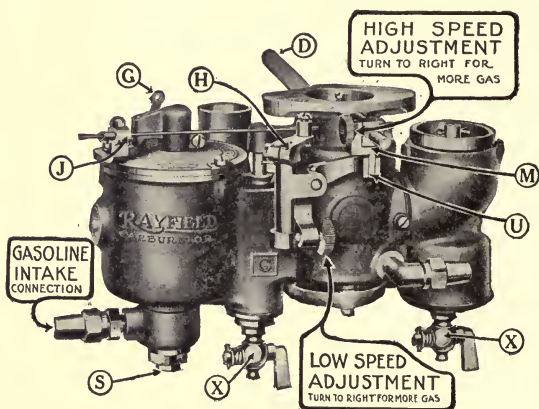

FIG. 111.—Rayfield Model G carburetor.
65. Rayfield Model G.—This carburetor is illustrated in Figs. 111 and 112. It has two jets and the gasoline is drawn through them into the mixing chamber, the quantity being controlled by adjustments on the outside of the carburetor. As will be noticed, there are no air valve adjustments, but two gasoline adjustments, a low speed adjustment and a high speed adjustment. The names of the lettered parts on Fig. 111 are as follows: